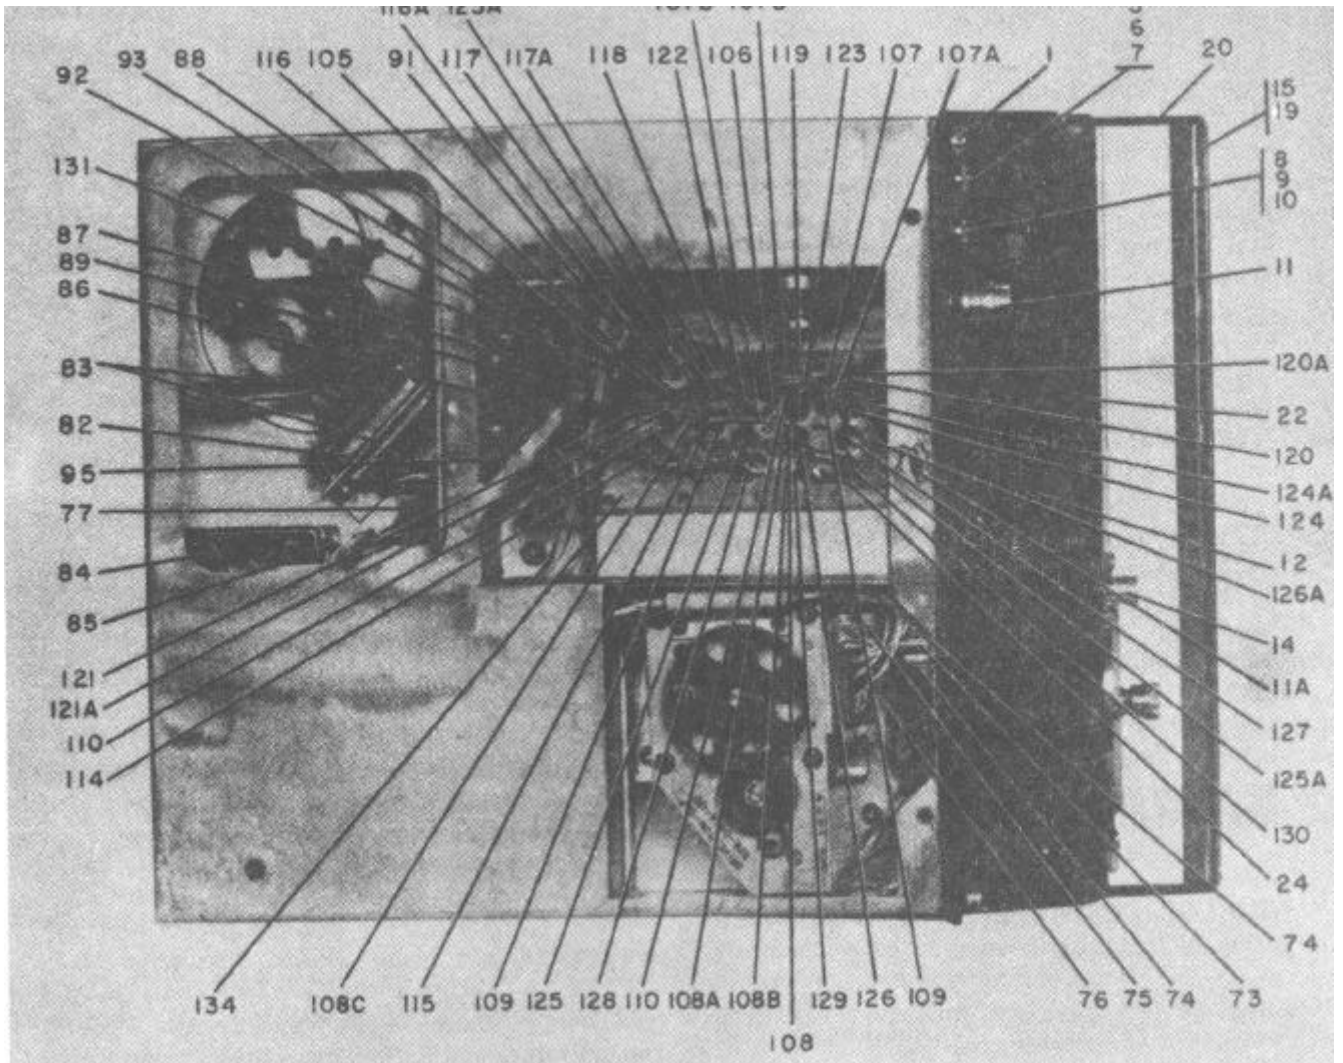

Figure 3-5(1). Equipment Chassis A1, Parts Location (Part 1 of 2).
Legend for Figures 3-5(1) and 3-5(2):